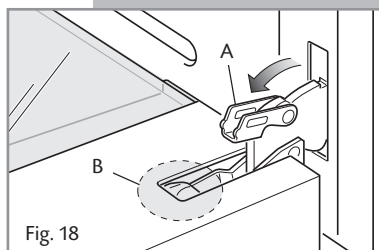
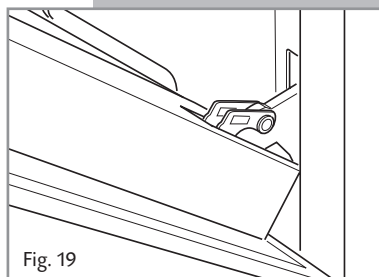

Fig. 18
Fig. 19
- Fully open the lever **A** on the left and right hinges (Fig 18).
- Gently close the door (Fig. 19) until the left and right hinges are hooked to part **B** of the door (Fig. 18).
1. Make sure the door is locked open (see fig. 19).